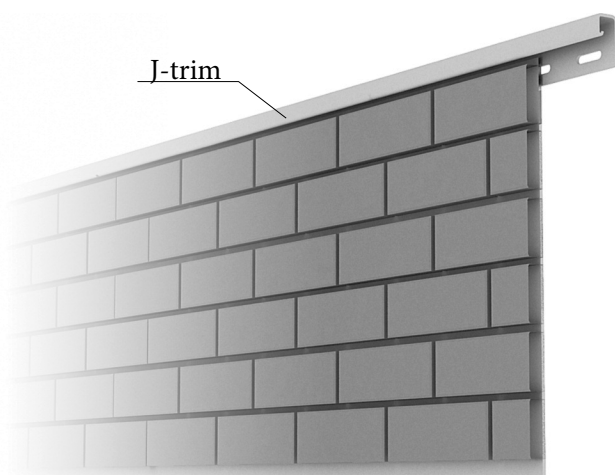

fig. 7
2. If you want to make an jamb and allot front panels, as a starter strip you can use a strip J-profile, which will serve as a rim on the wall of your home (Fig. 7).